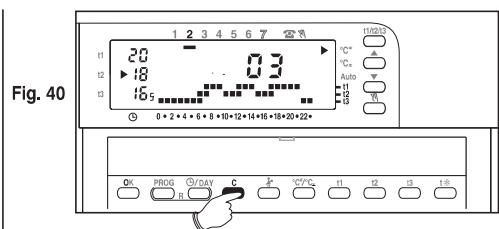

Fig. 40
- **To display the operating time during the 24 hours of the previous day:** press **C** and the requested number of hours will appear on the display (Fig. 40).